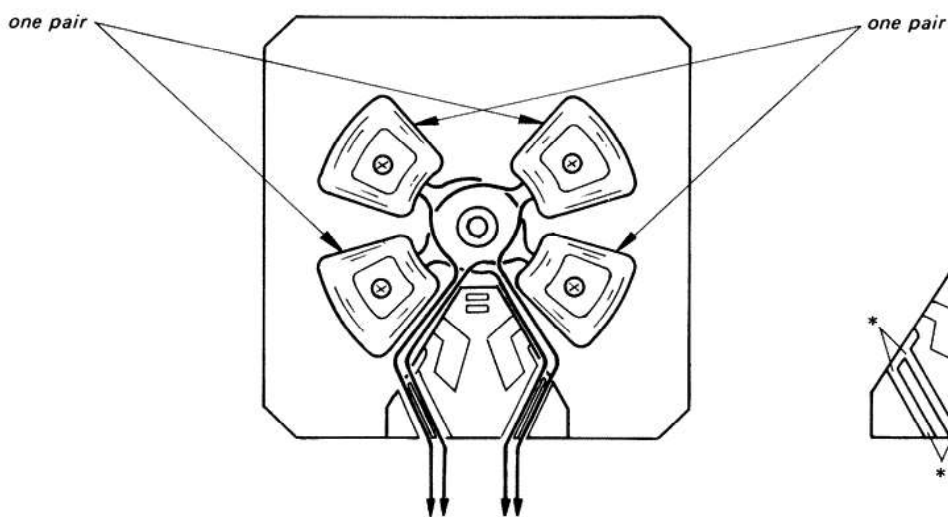
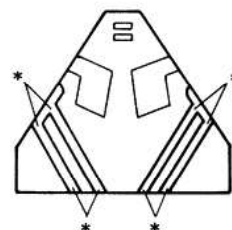

Fig. 5-4
Fig. 5-5
- b. Lay the leads of the coils as shown in Fig. 5-4 and fix the leads in the slot marked by * in Fig. 5-5.